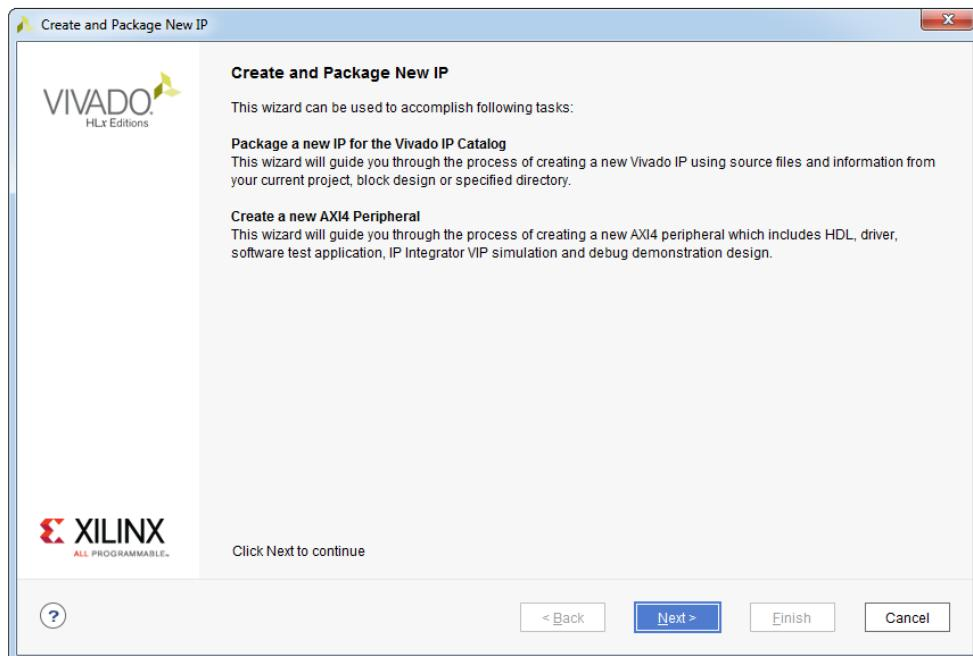

Figure 12.15: Create and Package New IP dialog box
15. In the **Create and Package New IP** dialog box, click **Next**, see Figure 12.15.